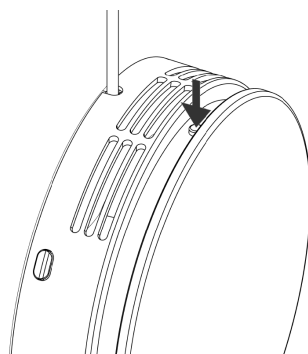

Figure 20 - Turn off the unit
1. Start by turning off the unit, see Figure 20 below. Wait 3 minutes until the unit has stopped rotating completely.